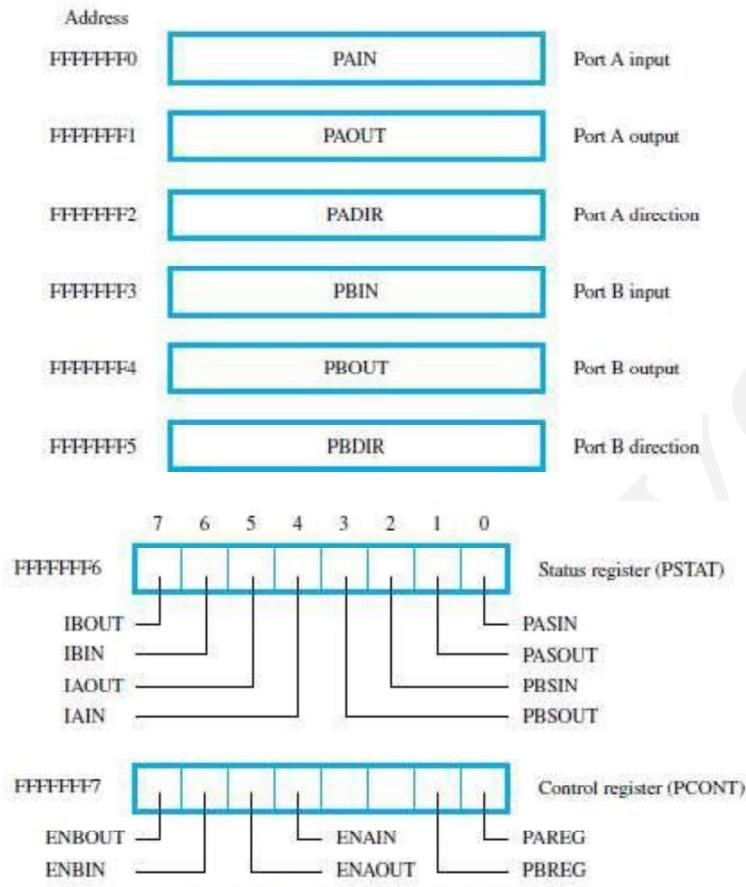

Figure 10.6 Parallel interface registers.
- **Addressable Registers** are (Figure 10.6):
- PASIN = 1 → When there are new data on port A (Figure 10.6).